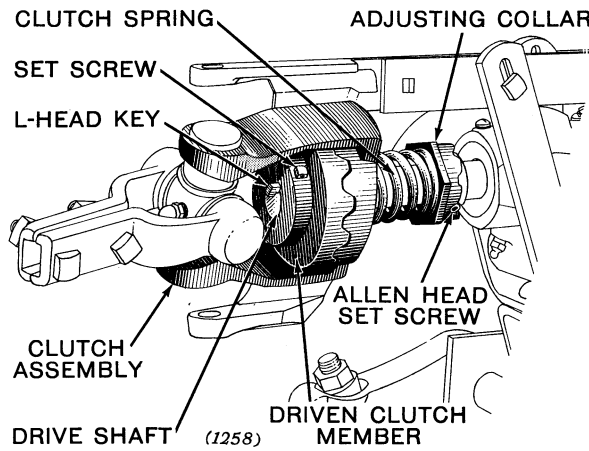

Figure 8
5. Reassemble so that the end of the drive shaft is flush with the back of the driven clutch member as shown in Figure 8.